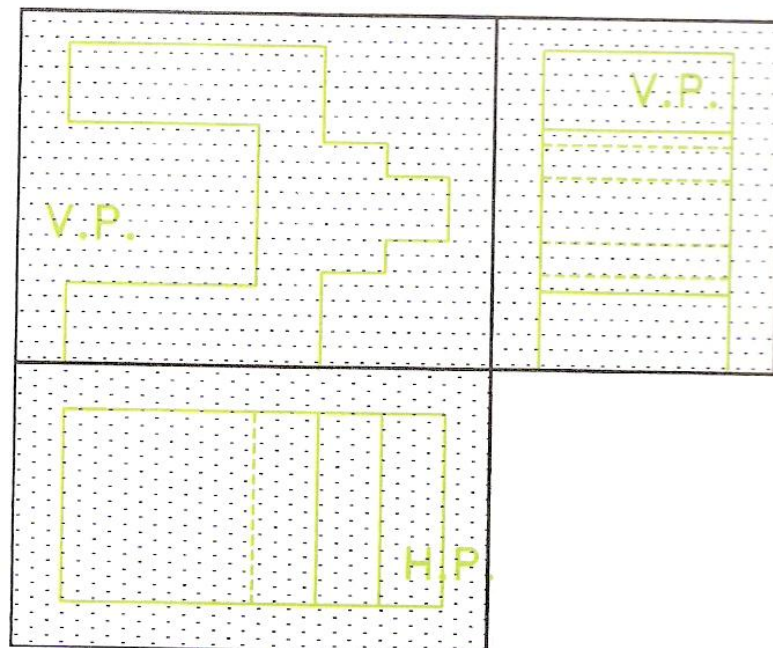
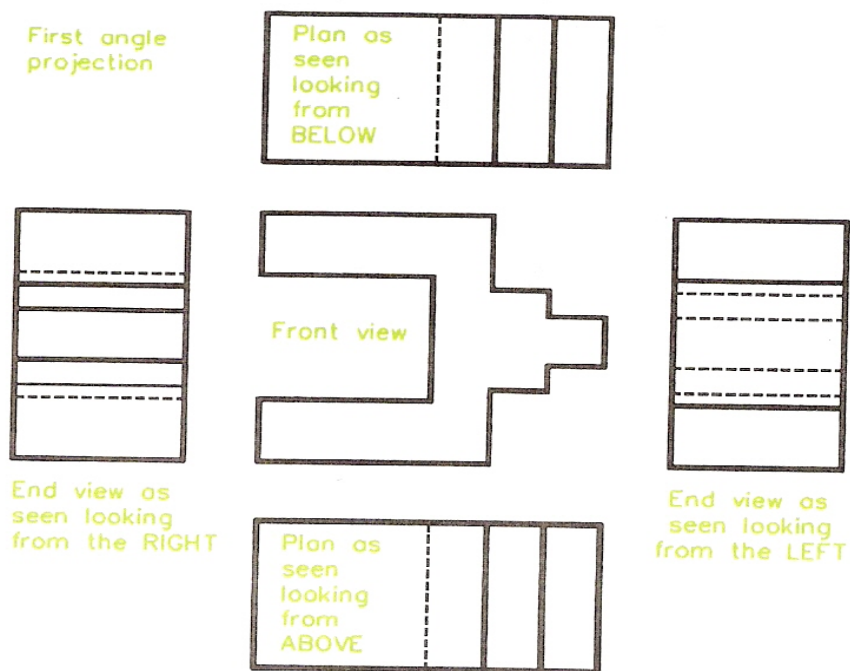

Figure 10 - Three First Angle Views Obtained from Figure 9
Figure 11 - Five Views in First Angle Orthographic Projection
- Figure 10 shows the results of rotating both V.P.s so that they lie flat with the H.P. The result is that a new view - an End view has been added to the Front view and Plan.
- Figure 10 shows how an end view can be included in a First angle orthographic projection. Taking the theory further, Figure 11 shows that it is possible, by adding further imaginary V.P.s and H.P.s to include two End views and two Plans in a First angle projection. Note that the term 'Plan' is used here in a different sense to its normal meaning. In orthographic projection a Plan can be drawn by looking upwards at an object from below.